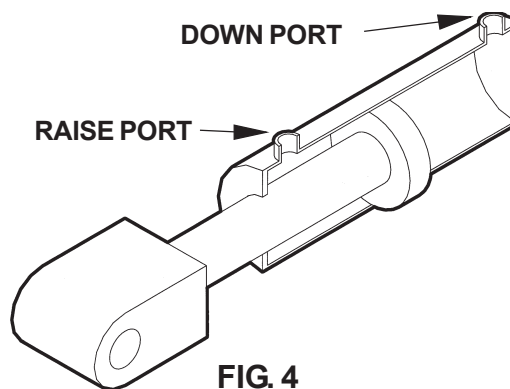

FIG. 4
3. Check the Hydraulic Cylinder. With the Platform on the ground, remove the hydraulic line from the Down Port of the Cylinder (FIG. 4). Raise the Platform even with the bed. Allow pump motor to run two seconds more while you watch for hydraulic fluid at the Down Port. A few drops of hydraulic fluid escaping the Down Port is normal; however, if it streams from the Down Port, Piston Seals are worn. Replace Seals.